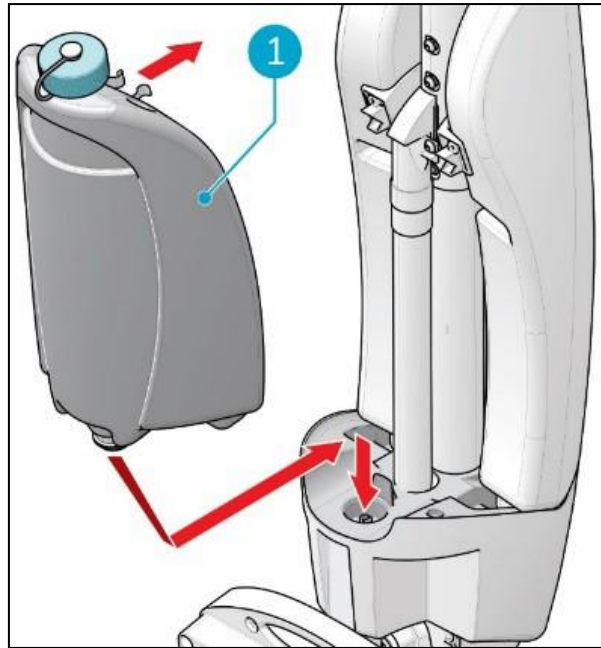

Figure 14
5. Put the tank on the i-mop XL Plus with the valve first (Figure 14, pos 1).